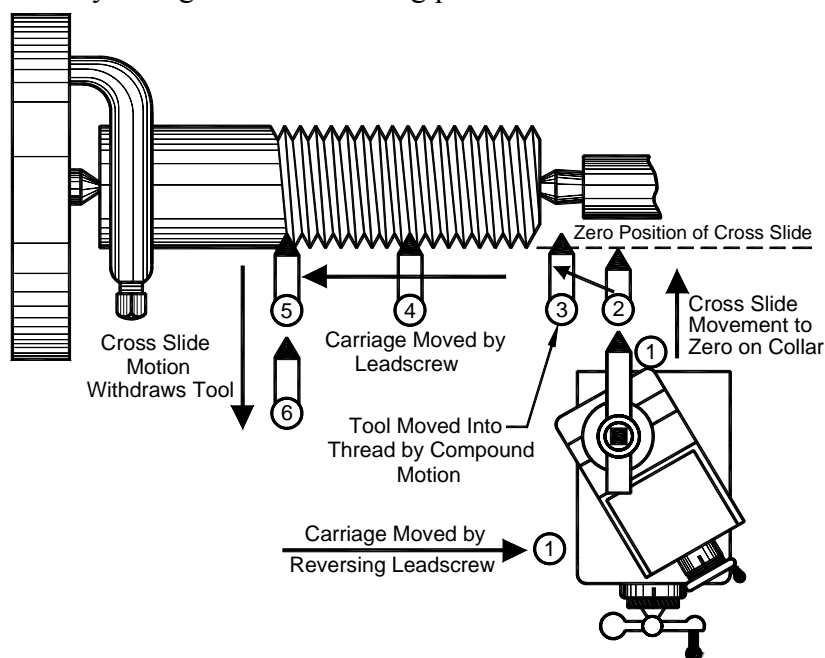

Figure 7-140. Completing the threading process.
17. Manually move the carriage to Position 1 as in Figure 7-140. Then, using the collar calibrations, move the cross slide to the zero position, Position 2. With the compound, advance the tool bit in preparation for the next thread cut, Position 3. Use Table 7-9 as a rough guide for the depth of each pass. The idea is to use cross slide motion to pull the tool away from the workpiece at the end of the thread and move the tool back to the zero position for the next pass. Once the compound collar has been set to zero, the compound is incremented for each pass and is never used to pull the tool away from the work.
2. Set the compound swung  $30^\circ$  to the left of the cross slide and the tool bit at right angles to the work. This is similar to Figure 7-140 with the exception of the direction of the compound with respect to the cross feed.